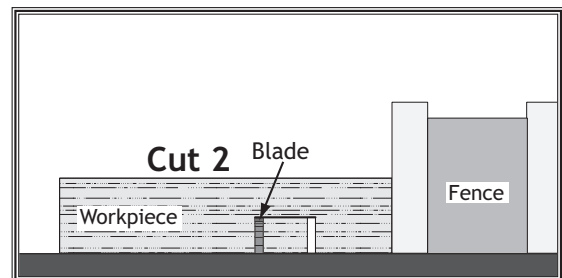

Figure 60. Single-blade dado second cut.
7. Re-adjust the fence so the blade is aligned with the other edge of the intended dado channel (**Figure 60**).